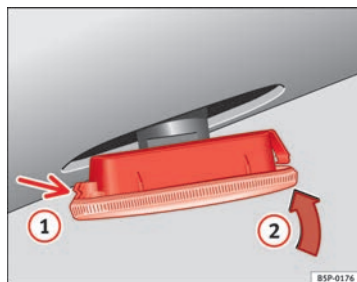

Fig. 173 Side turn signal
- First place the turn signal in the opening in the bodywork, fixing the tabs ⇒ fig. 173, arrow ①.
- Insert the turn signal as shown by the arrow ② ⇒ fig. 173. ■